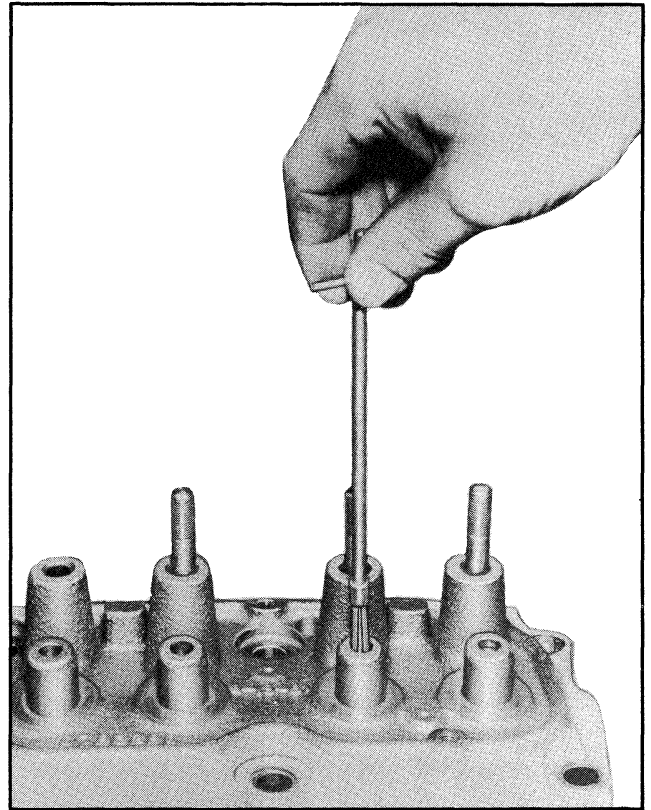

Fig. 6-34 Cleaning Valve Guide Bore
2. Thoroughly clean the valve guides using tool J-8101 (Fig. 6-34).